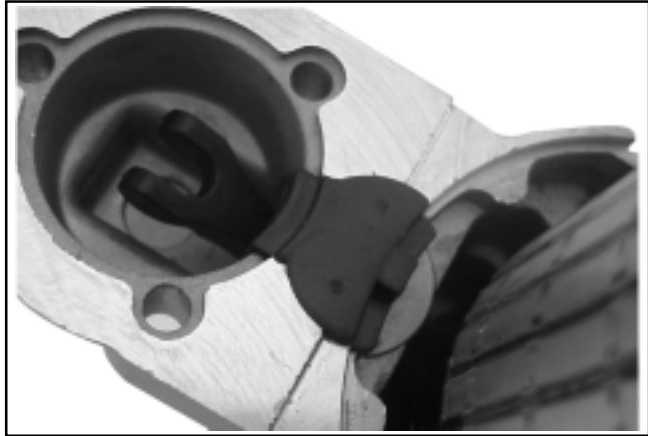

Figure 8-32. Installing Backup Washer and Grommet.
7. Install the backup washer followed by the rubber grommet, into the matching recess of the drive end cap. The molded recesses in the grommet should be "out", matching and aligned with those in the end cap. See Figure 8-32.